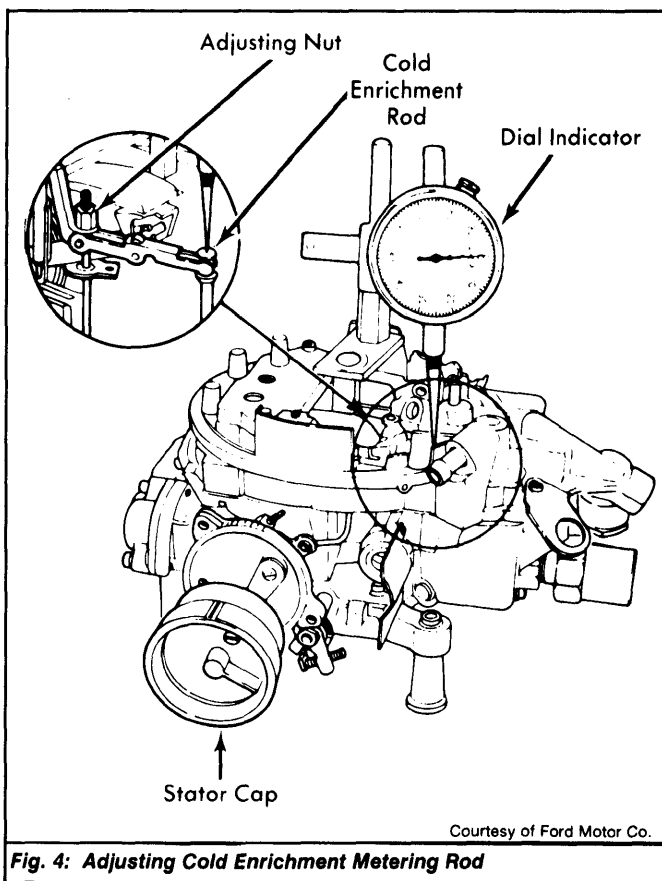

Fig. 4: Adjusting Cold Enrichment Metering Rod
2) Install stator cap (T77L-9848-A) as a weight to seat cold enrichment rod. See Fig. 4.